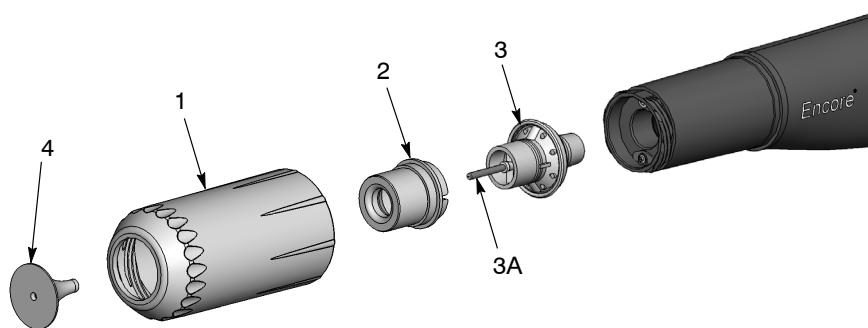

Figure 4-2 Changing Optional Deflectors and Conical Nozzles
1. See Figure 4-2. To change the deflector (4), gently pull it off the electrode assembly (3). If only changing the deflector, install the new one on the electrode assembly, being careful not to bend the electrode wire.
2. To change the entire nozzle, unscrew the nozzle nut (1) counterclockwise.
3. Pull the conical nozzle (2) off the electrode assembly.
**NOTE:** It is not necessary to remove the electrode assembly (3) from the spray gun. If the electrode assembly comes out of the spray gun when you pull the nozzle off, clean it with compressed air before re-installing it. Do not bend the electrode. The electrode holder (3A) screws into the assembly. Both the holder and the electrode are replaceable.